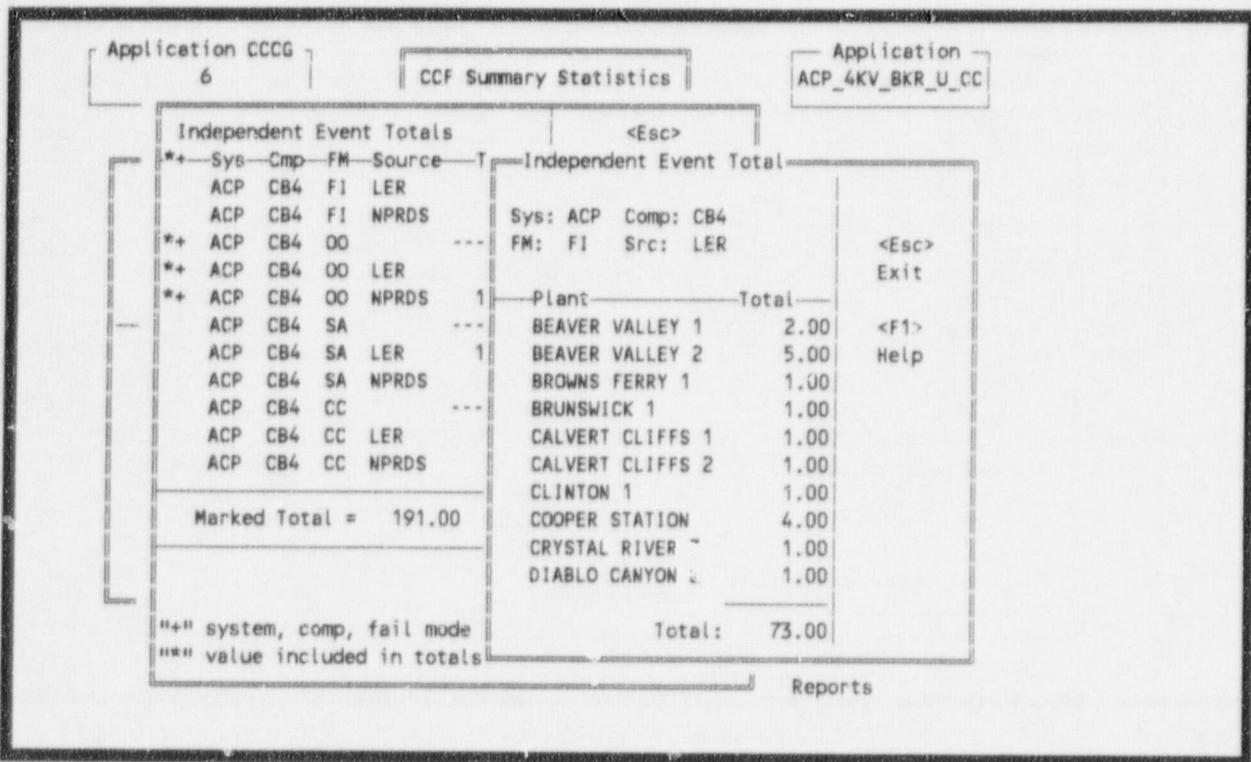

Figure 21. Generic—Breakdown of independent event totals by plant.
- <F3> By Plant—Breaks down the number of independent events for the highlighted entry by the plants which contributed to the total (Figure 21).